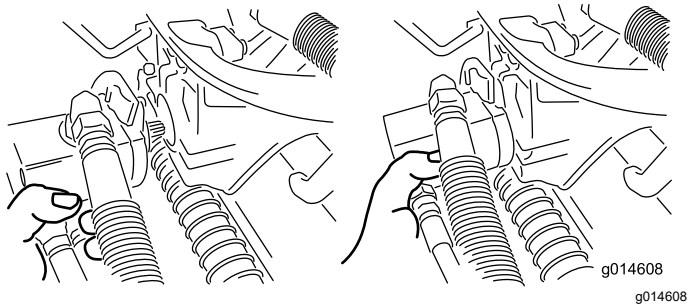

Figure 50
3. Move the motor to the storage location on the front of the suspension arm (Figure 50).